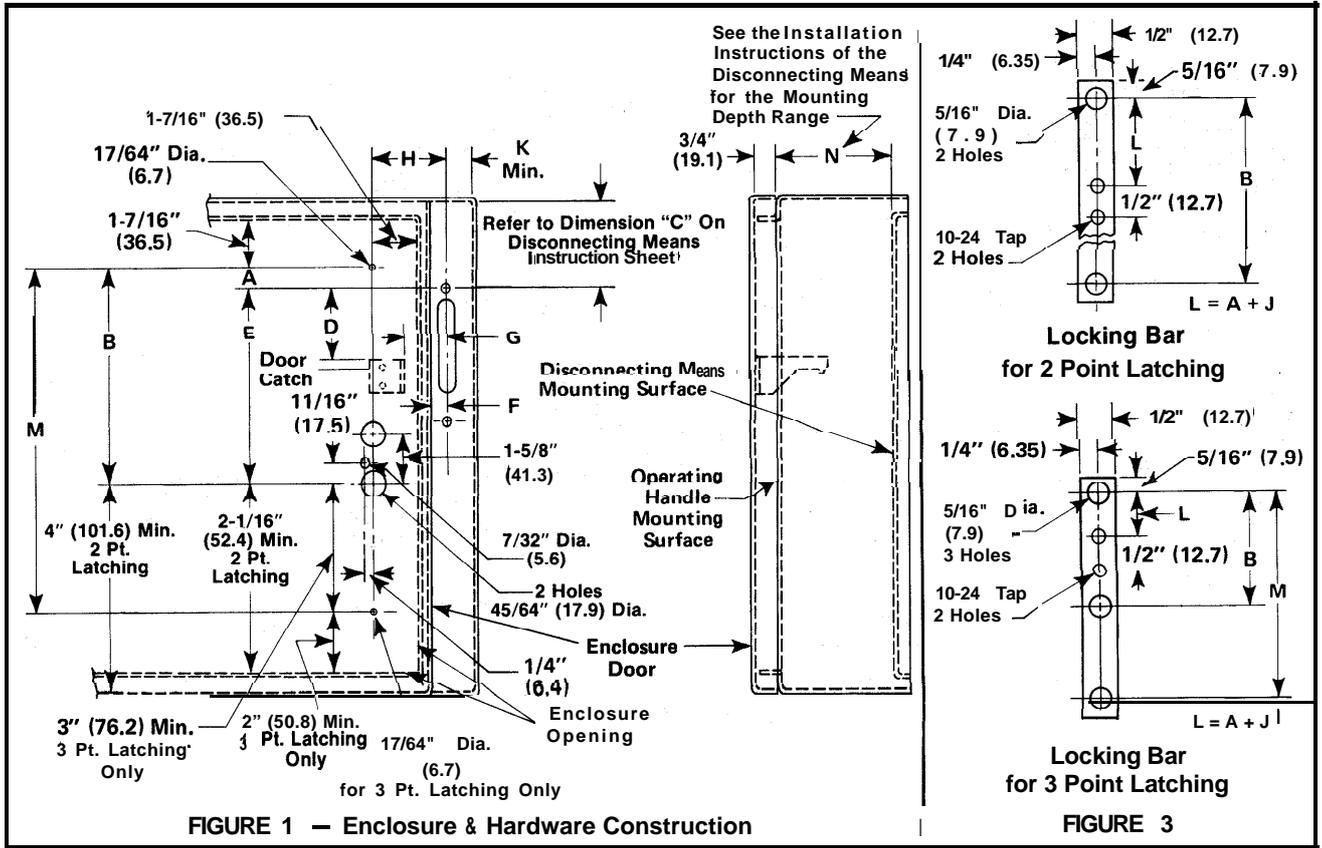
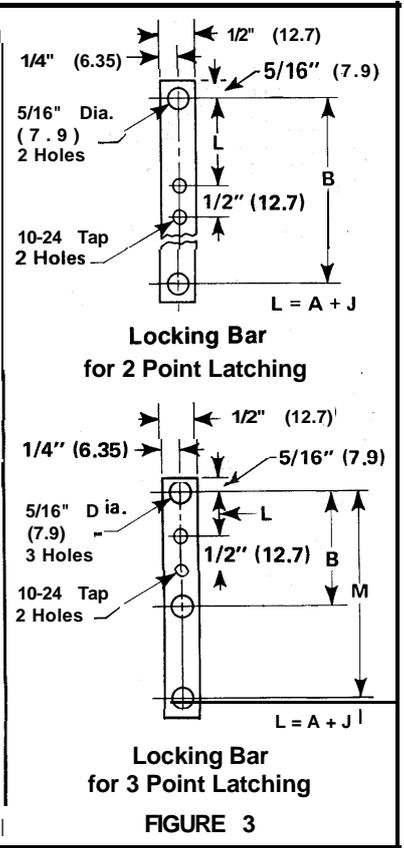

FIGURE 1 — Enclosure & Hardware Construction
FIGURE 3
1. Check all minimum enclosure and door dimensions required for installation. See Figures 1 and 2 and the instruction sheet for the disconnecting means being installed.
5. Establish the length of the locking bar, Figure 3, by measuring, between the proper holes on the door, dimension "B" Figure 1, and adding 5/8" (15.9) for 2 point latching door hardware mechanisms and dimension "M" Figure 1, and adding 5/8" (15.9) for 3 point latching door hardware mechanisms.
6. Determine dimension "A", Figure 1, by measuring between the flange and door holes as shown. See Figure 2 for dimension "J". Drill and tap the locking bar as shown in Figure 3. **Note:** The 1/4" (6.35) by 1/2" (12.7) standard mill rectangular locking bar is not supplied with these kits.